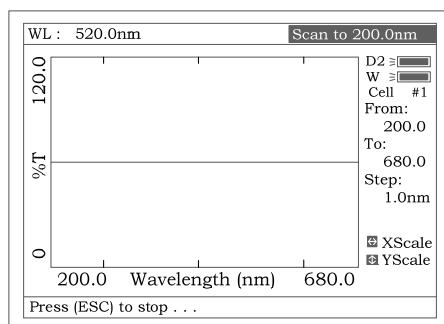

Fig 44
- Push the blank cuvette into the reference light path and main light path, press [**0Abs/100%T**] to scan the base line (Fig 44). Press the key [**ESC/STOP**] to stop scanning.